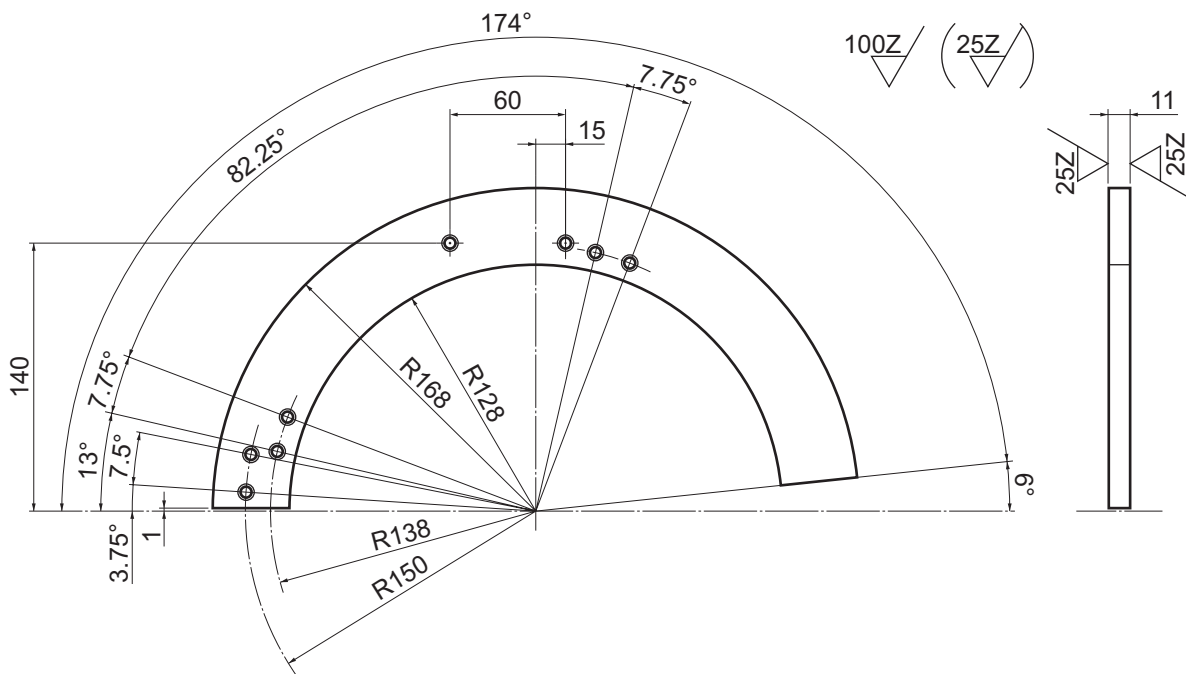

Figure 1-5. Plate
- Plate, quantity 2 (see **Figure 1-5**)